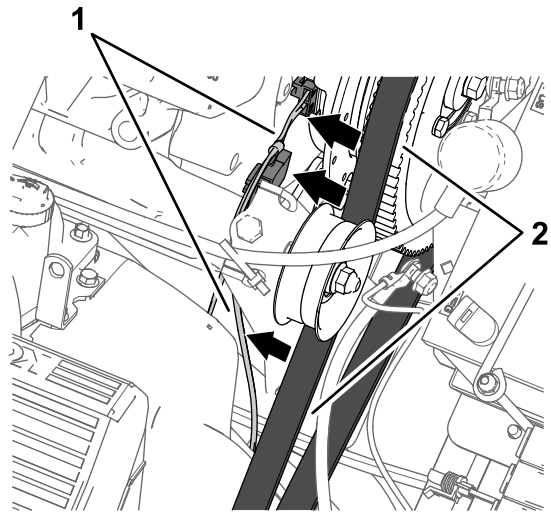

Figure 209
4. Route the wire-harness branch—84 cm (33 inches) against the engine and spray pump so that the harness clears the alternator belt (Figure 209).